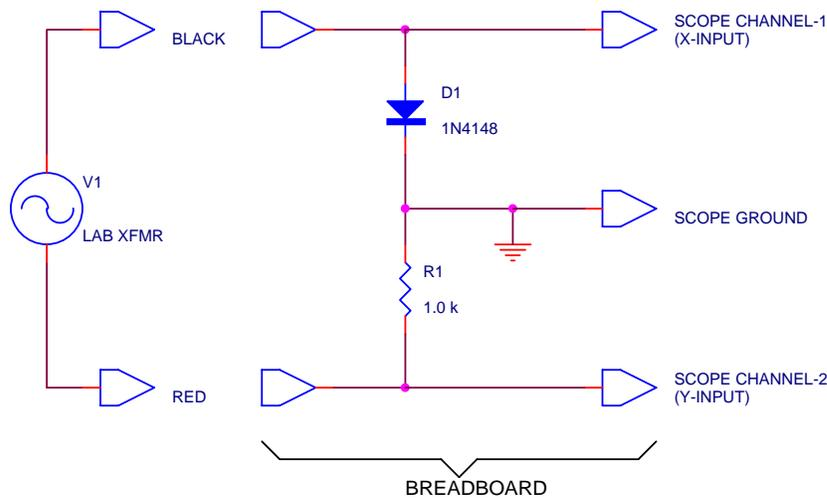

Figure E1.4
**Set-Up** Use the following parts to construct the circuit of Fig. E1.4 below:
Connect the black (+6.3 VAC) output from the lab transformer and the 10 $\times$  probe from Ch-1 (x-input) of the oscilloscope to the anode of the diode. Connect the red (-6.3 VAC) output from the lab transformer and the 10 $\times$  probe from Ch-2 (y-input) of the oscilloscope to R1, as shown in Fig. E1.4. The ground leads from both oscilloscope probes should be connected to the junction between D1 and R1. Configure the oscilloscope to display an X-Y plot of Ch-1 versus Ch-2, with the Ch-2 input amplifier set to invert the signal. Set both oscilloscope input couplings to GND, center the dot in the exact middle of the oscilloscope screen, and return the input couplings on both channels to DC. Set the range selector for Ch-1 to 0.1 V/div and the range selector for Ch-2 to 0.5 V/div. With a value of R1 = 1 k $\Omega$  and 10 $\times$  probes, this sets the horizontal scale to 1.0 V/div and the vertical scale to 5 mA/div. (This is the same set-up as described in Procedure 3.)